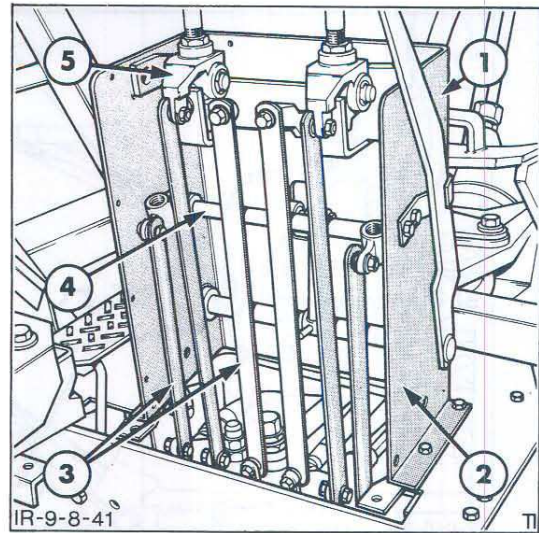

Figure 41
1. Remove the control and stabiliser lever link assemblies by removing the bolts at either end of the link Figure 41.